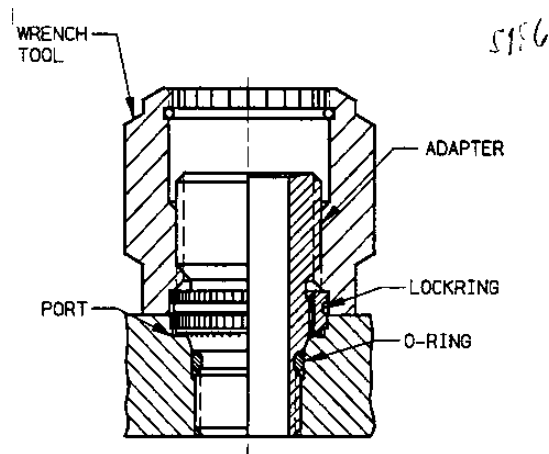

FIGURE 3
- While the zinc chromate or sealant applied per 7 is still wet, install the lockring by rotating the thread end of the combination wrench and drive tool clockwise onto the adapter assembly until it touches the lockring. Place an open end or socket wrench on the tool, turn the tool in a clockwise direction until it bottoms on the boss surface as shown in Figure 3. Observe that the tool has bottomed. (DO NOT OVER TORQUE - PORT DAMAGE AN RESULT!)